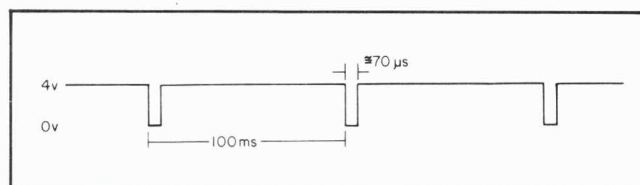

Figure 3-6. Delay Out Waveform.
a. The Delay out waveform is illustrated in Figure 3-6.